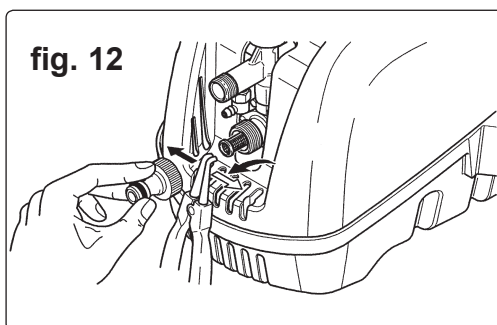

fig. 12
- 5.2. Check and clean the inlet filter, fig. 12, and **detergent filter** (at the end of the detergent pick-up pipe) after every 50 hours of use.